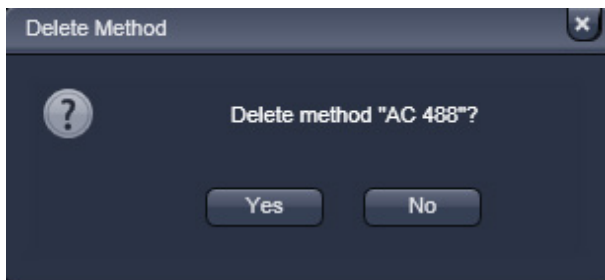

Fig. 312 Delete Method panel
- The **Delete Method** panel will appear requesting confirmation of this action (Fig. 312). Press **Yes** to delete the method from the data base, **No** to keep the method.